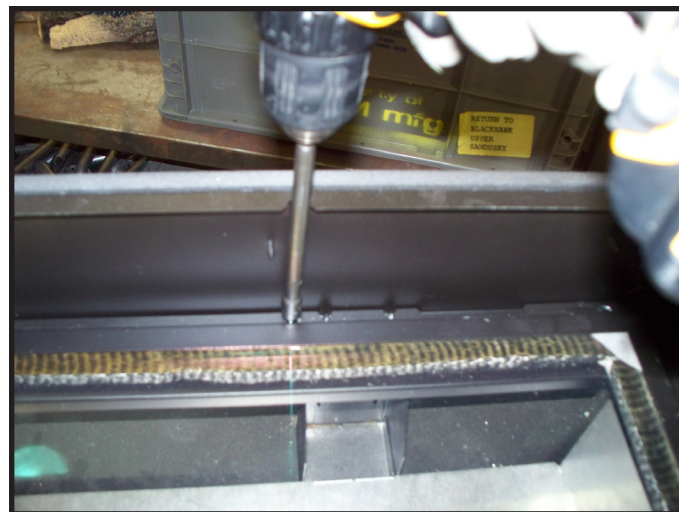

Figure 9.4. Gas and Electrical Access - Remove Glass Window
10. Remove the eight screws that secure the glass window. Remove the glass window. Handle with care. See Figure 9.4.